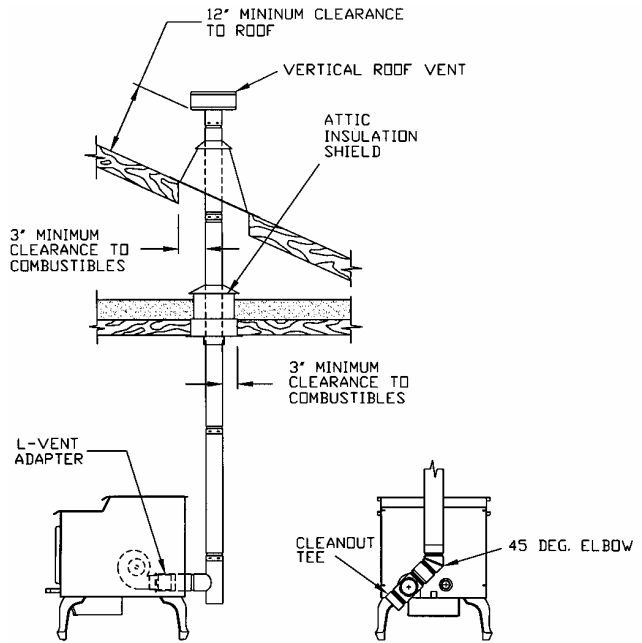

FIGURE 10
B. VERTICALLY WITH NEW CHIMNEY SYSTEM (Refer to Figure 10)